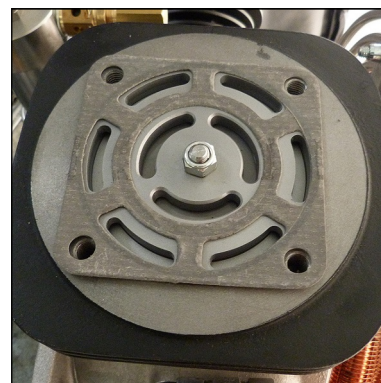

Fig. 4 - Place and align upper valve gasket
- Place the new inlet and outlet valve on the cylinder and align upper valve gasket (paper gasket) (Fig. 4).